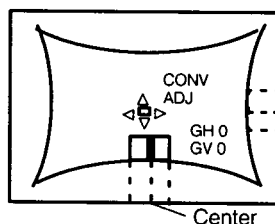

Fig. 53
8. Use the remote controller Left/ Right cursor control "◀▶" to set the screen left and right margins and the completely disappear. Then press "◀" once, align so that the vertical base signal is slightly to the left and press the Cursor center Key "■". **Fig. 53**